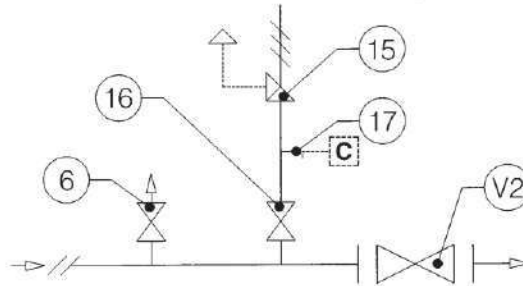

Fig. 9
3.1.2 INSTALLATION WITH ON/OFF VALVE (FIG. 9)